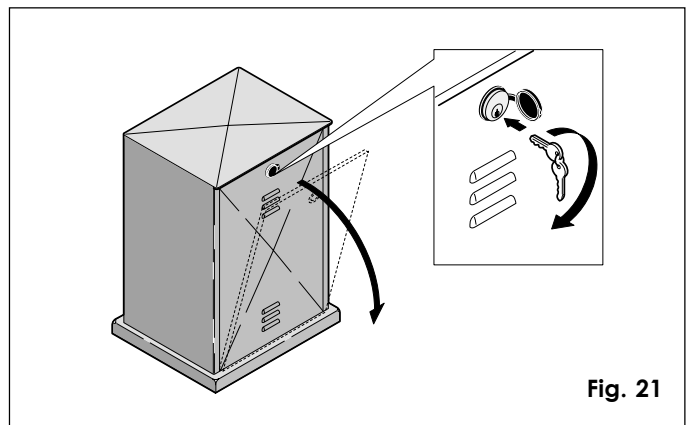

Fig. 21
- Open the door in the casing using the triangular key provided (see fig. 21).